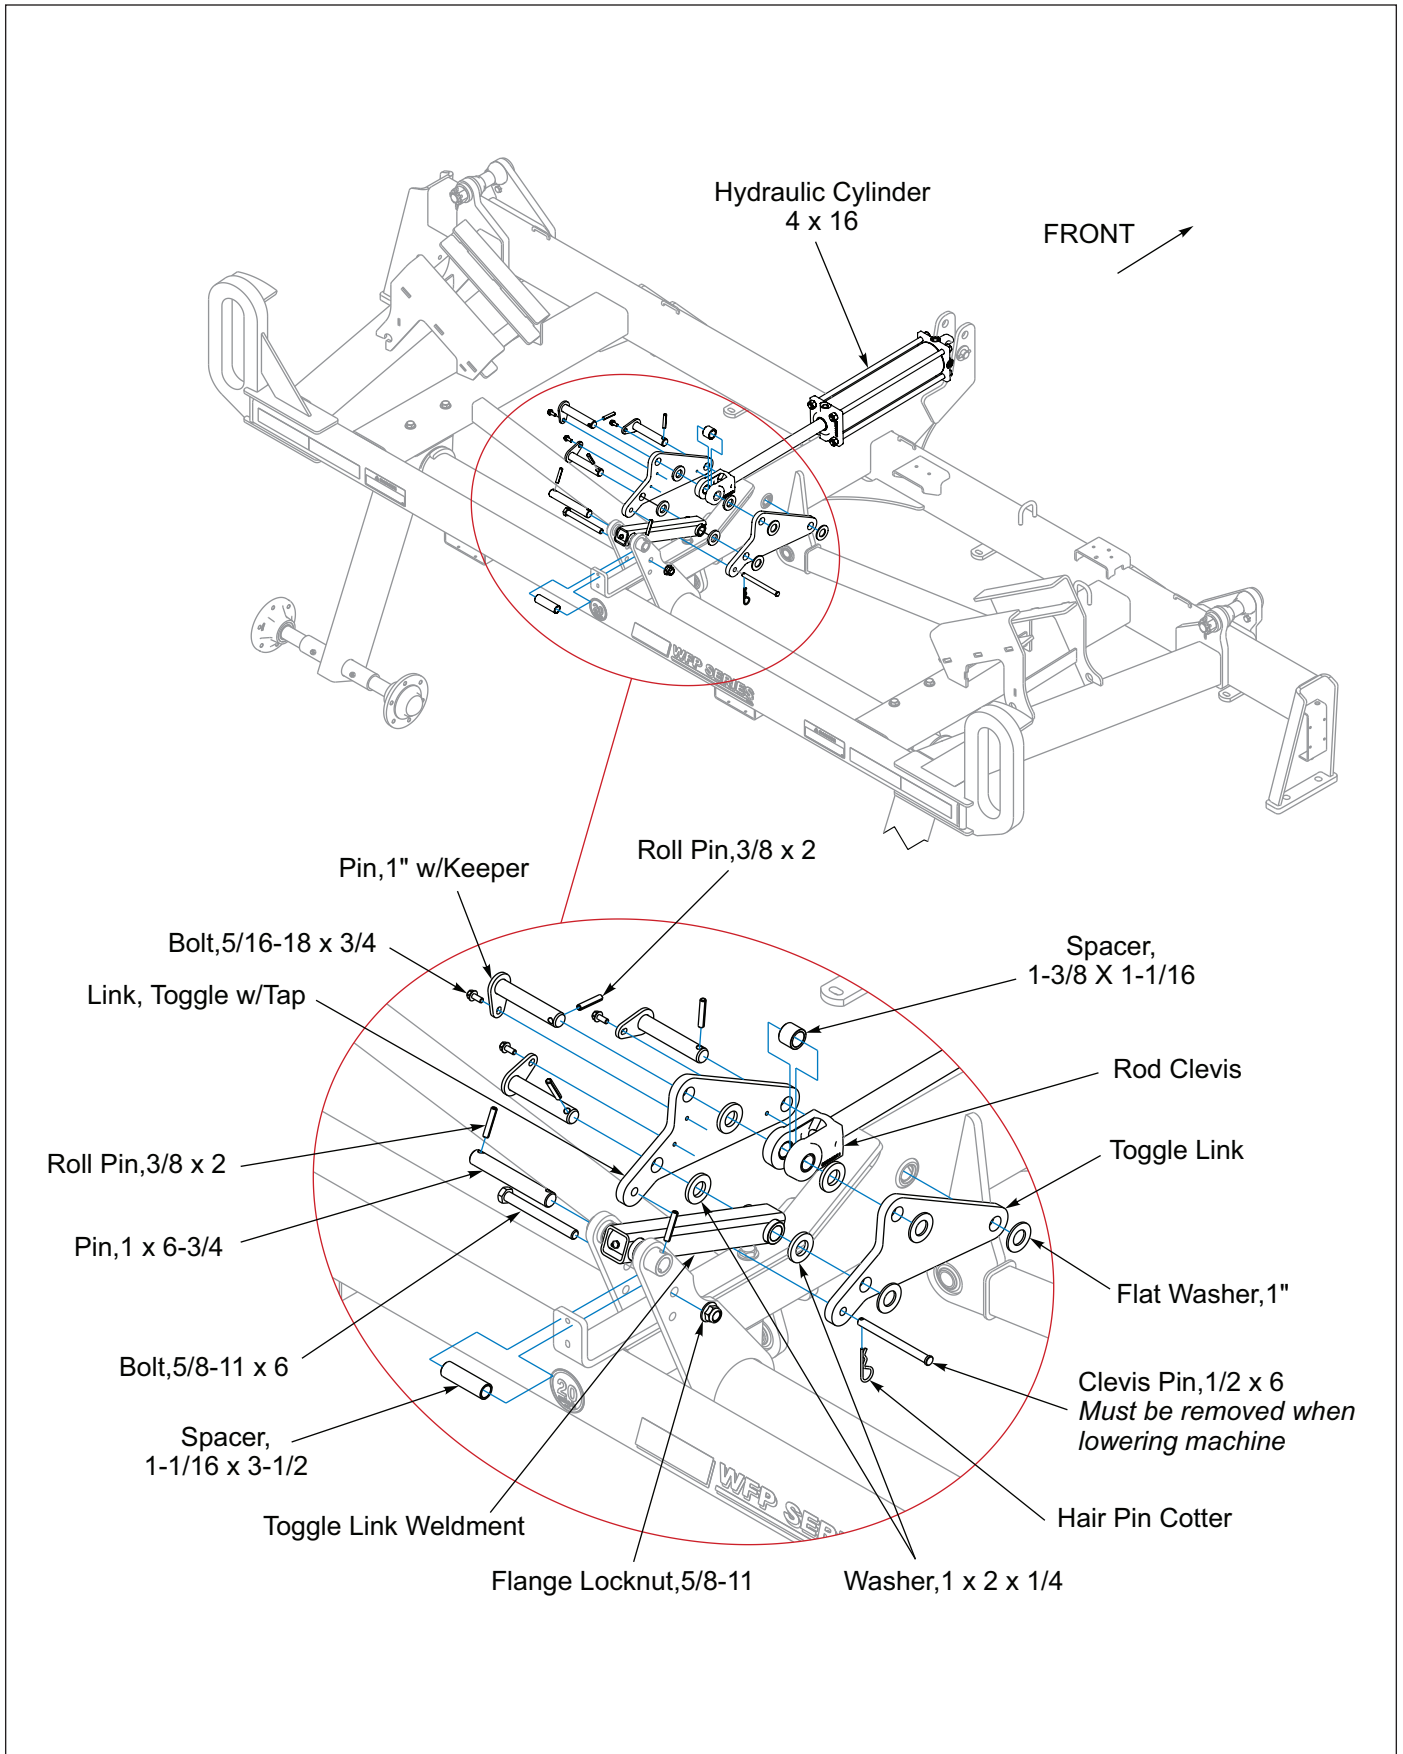

Figure 2-2: Transport Axle Linkage Installation
4. Install the base end of the 4 x 16 Hydraulic Cylinder between the front lugs with a 1 x 5-1/2 Pin, Flat Washers, and 5/16 x 2 Roll Pins. The rod end of the Cylinder will be attached to the Lift Linkage at the same time as the Transport Axle Linkage. **See Figure 2-2.**
1. Assemble the Toggle Link Weldment to the Transport Axle Assembly with 1 x 6-3/4 Pin. Secure with 3/8 x 2 Roll Pins. **See Figure 2-2.**